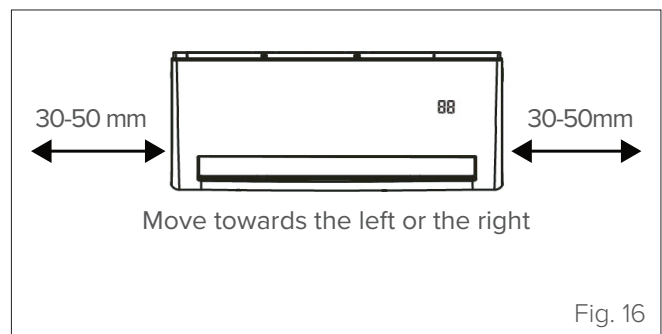

Fig. 16
- 1 Assemble the drainage pipe, coolant pipes and cables as indicated in "Fig. 16".
- 3 Using insulating tape, wrap the electrical cables, coolant pipes and drainage pipe together. Check that all components are joined together as indicated in "Fig. 16"